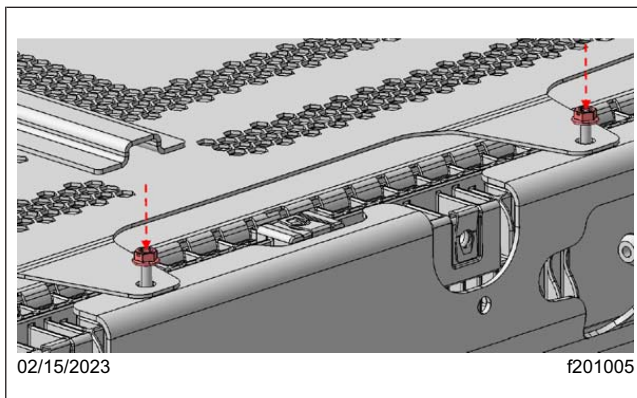

Fig. 12, M6 Flange Nut Installation
- 15.1 Tighten the M6 hex flange nuts 8 ± 1 lbf·ft (10 ± 1 N·m). See Fig. 12.